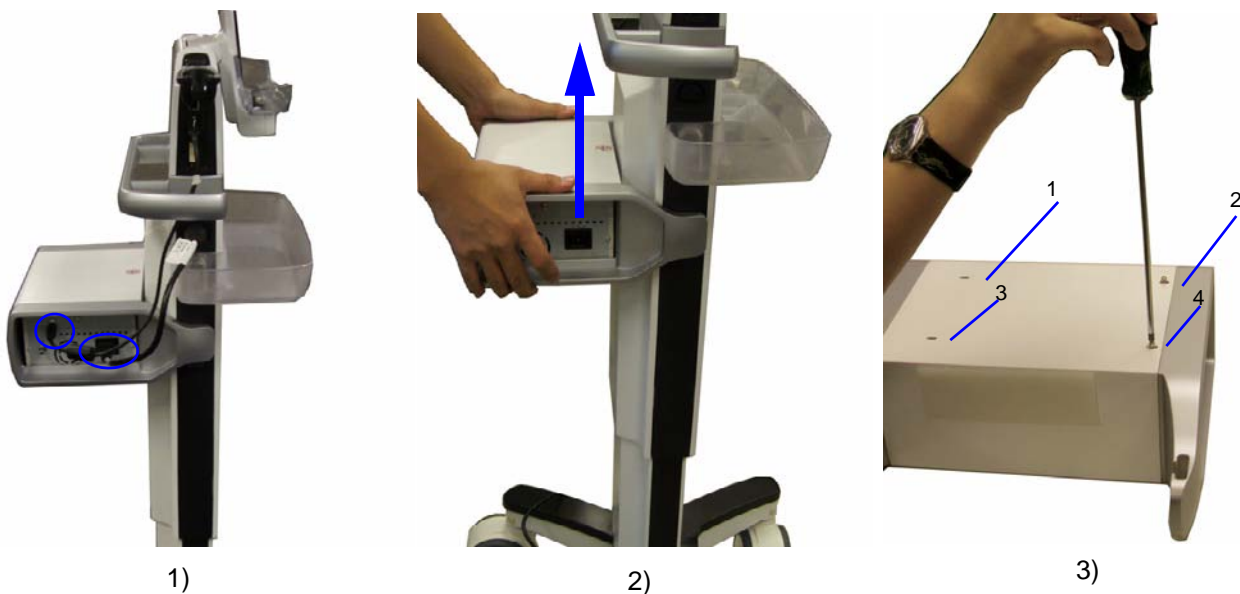

Figure 8-3 Docking Cart Printer Shelf replacement
- 2.) Lift the Printer Shelf and remove it from Docking Cart. Refer to Figure 8-3 on page 8-6
- 3.) Reverse the printer shelf with printer, unscrew 4 screws [M3*8], take out the printer. Refer to Figure 8-3 on page 8-6